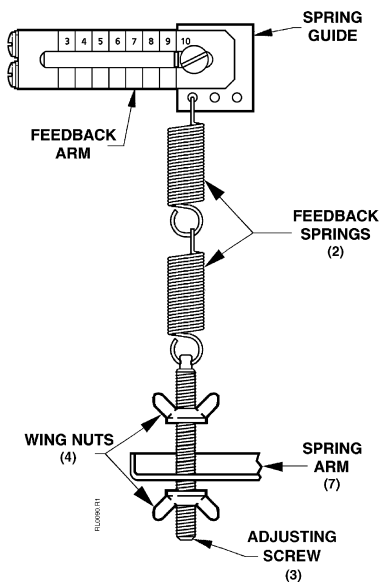

Figure 2. Attaching the Adjusting Screw to the Spring Arm.
4. Position the spring arm (7) on the valve stem so the slot for the adjusting screw (3) is in line with the spring guide. Lock the spring arm in position between the jam nut and the stem nut.
6. Connect the feedback spring(s) (2) between the spring guide and the adjusting screw (3). If more than one feedback spring is required, connect them in a series end to end.
7. Thread one wing nut (4) onto the adjusting screw (3). See *Figure 2*.